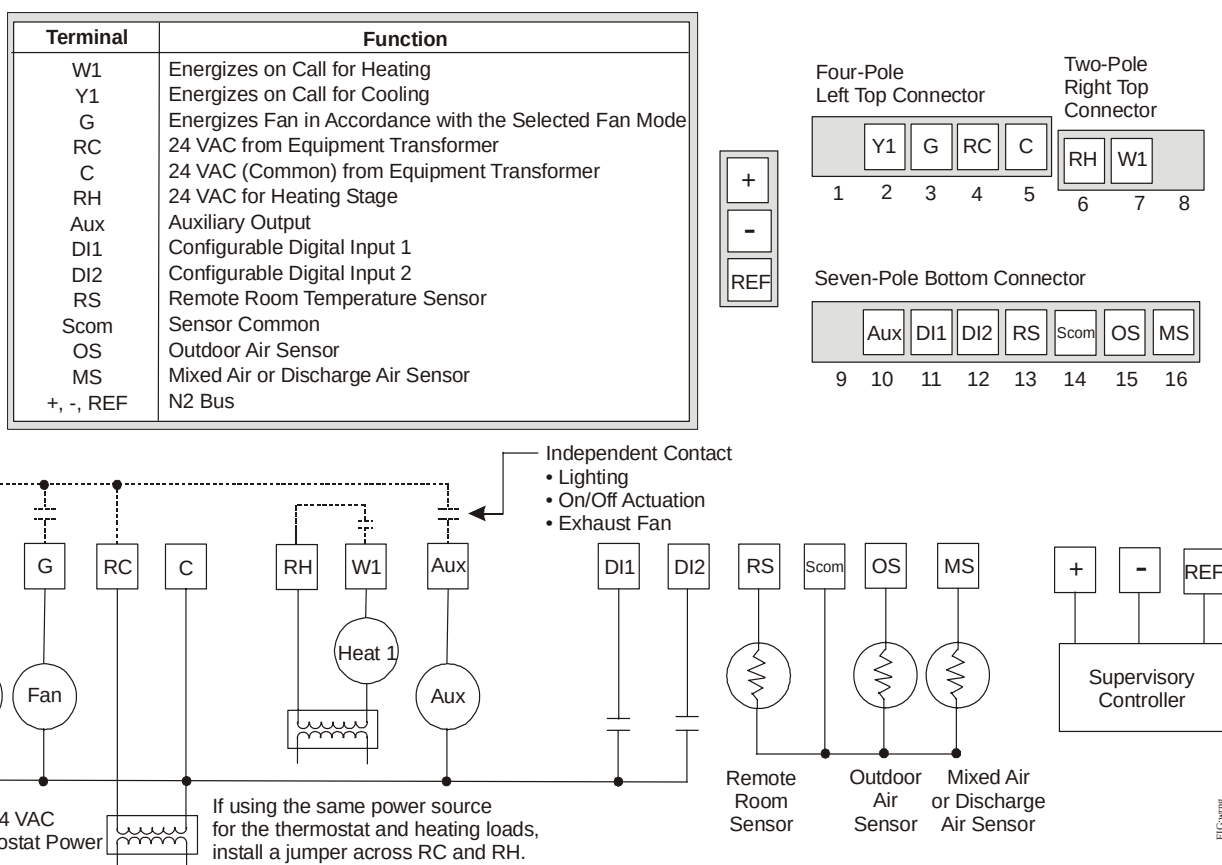

Figure 5: Wiring the TEC2101-3 Thermostat
1. Strip the ends of each wire 1/4 in. (6 mm) and connect them to the appropriate screw terminals as indicated in Figure 5.